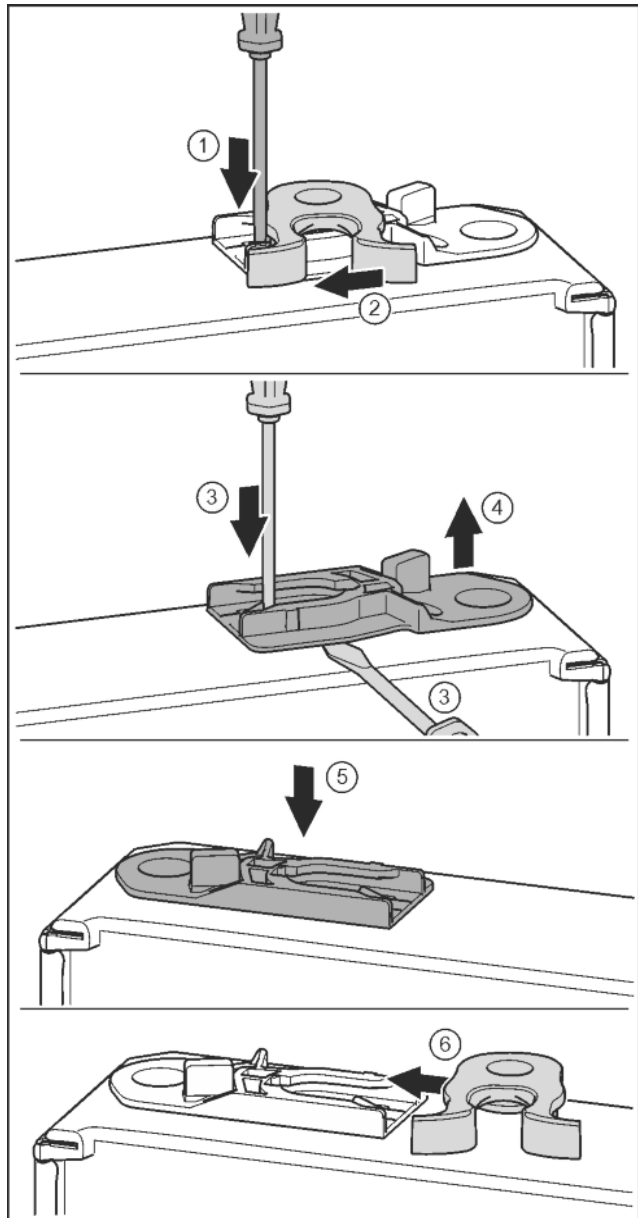

Fig. 18
- ▶ Push the tab downwards with a slotted screwdriver. Fig. 18 (1)
- ▶ Pull the door latch out of the guide. Fig. 18 (2)
- ▶ Pull out the guide bush: Press the tab with a slotted screwdriver and, at the same time, insert the slotted screwdriver under the guide bush. Fig. 18 (3, 4)
- ▶ Slide the guide bush included in the scope of supply to the other side of the housing. Fig. 18 (5)
- ▶ Push the door latch into the guide. Fig. 18 (6)